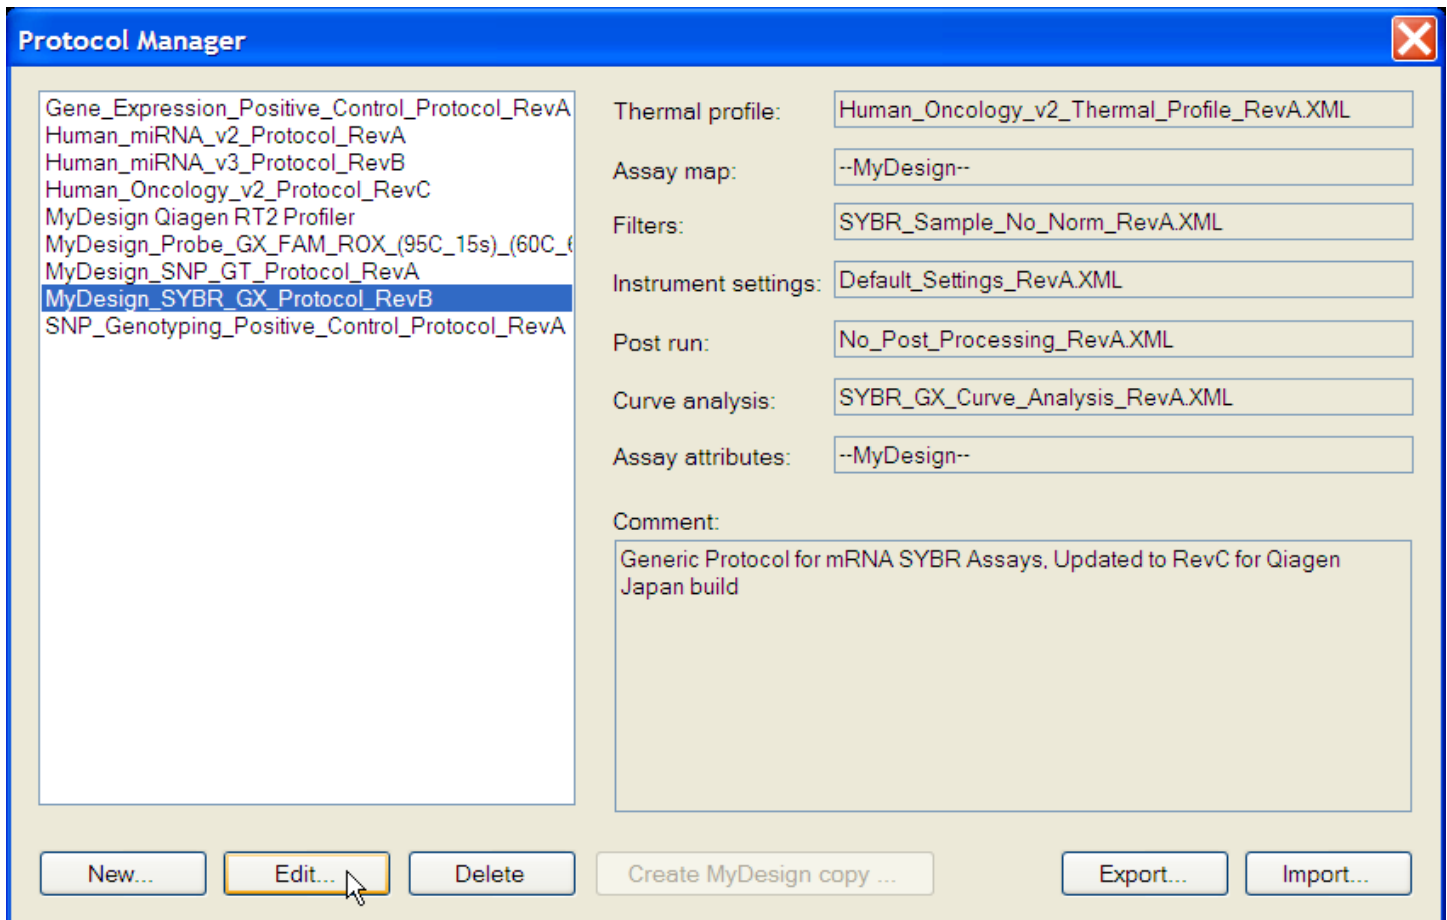

Figure 18. Protocol Manager window.
- ii. Choose a protocol from the *Protocol Manager* (Figure 18) and click [Edit].